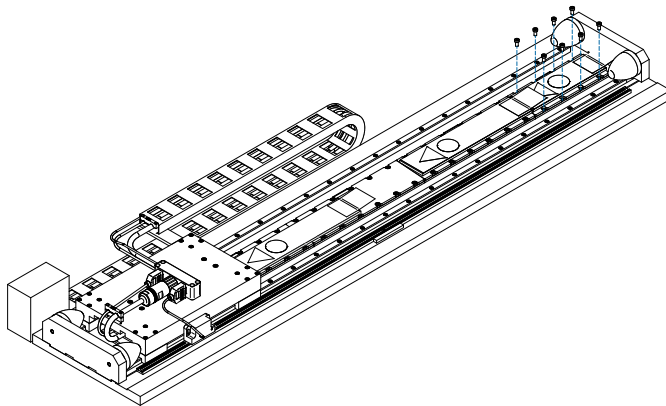

Figure 4.11: Mounting the remaining plates.
5. The other magnet plates can be mounted as well, by repeating steps 2 to 4. See figure 4.11.